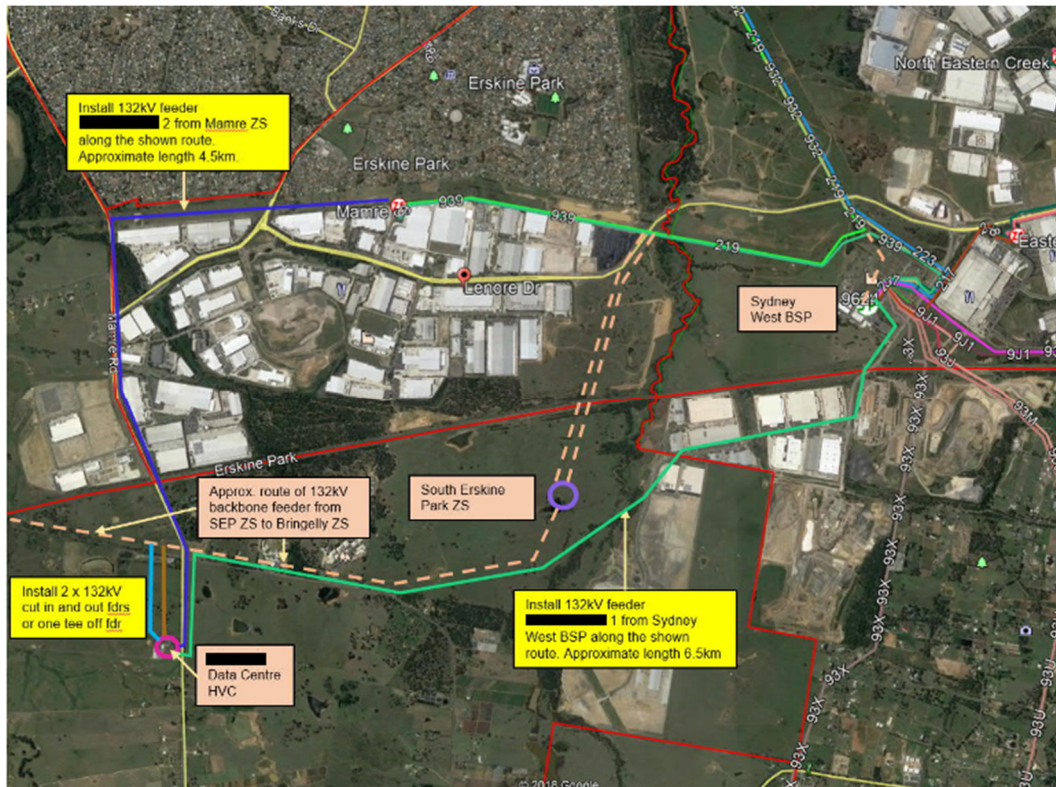

Figure 12 Permanent 132kV supply from Sydney West BSP
As per Endeavour Energy's connection offer UCL10561 issued on 21st of December 2020, one (1) 132kV feeder will be supplied from Transgrid's Sydney West Bulk Supply Point (approx. 6.5km). The second feeder will be supplied from Mamre ZS (approx. 4.5km) as shown below. Both new feeders will be likely underground along the indicative routed highlighted in green (feeder 1) and blue (feeder 2) as shown below in Figure 12.